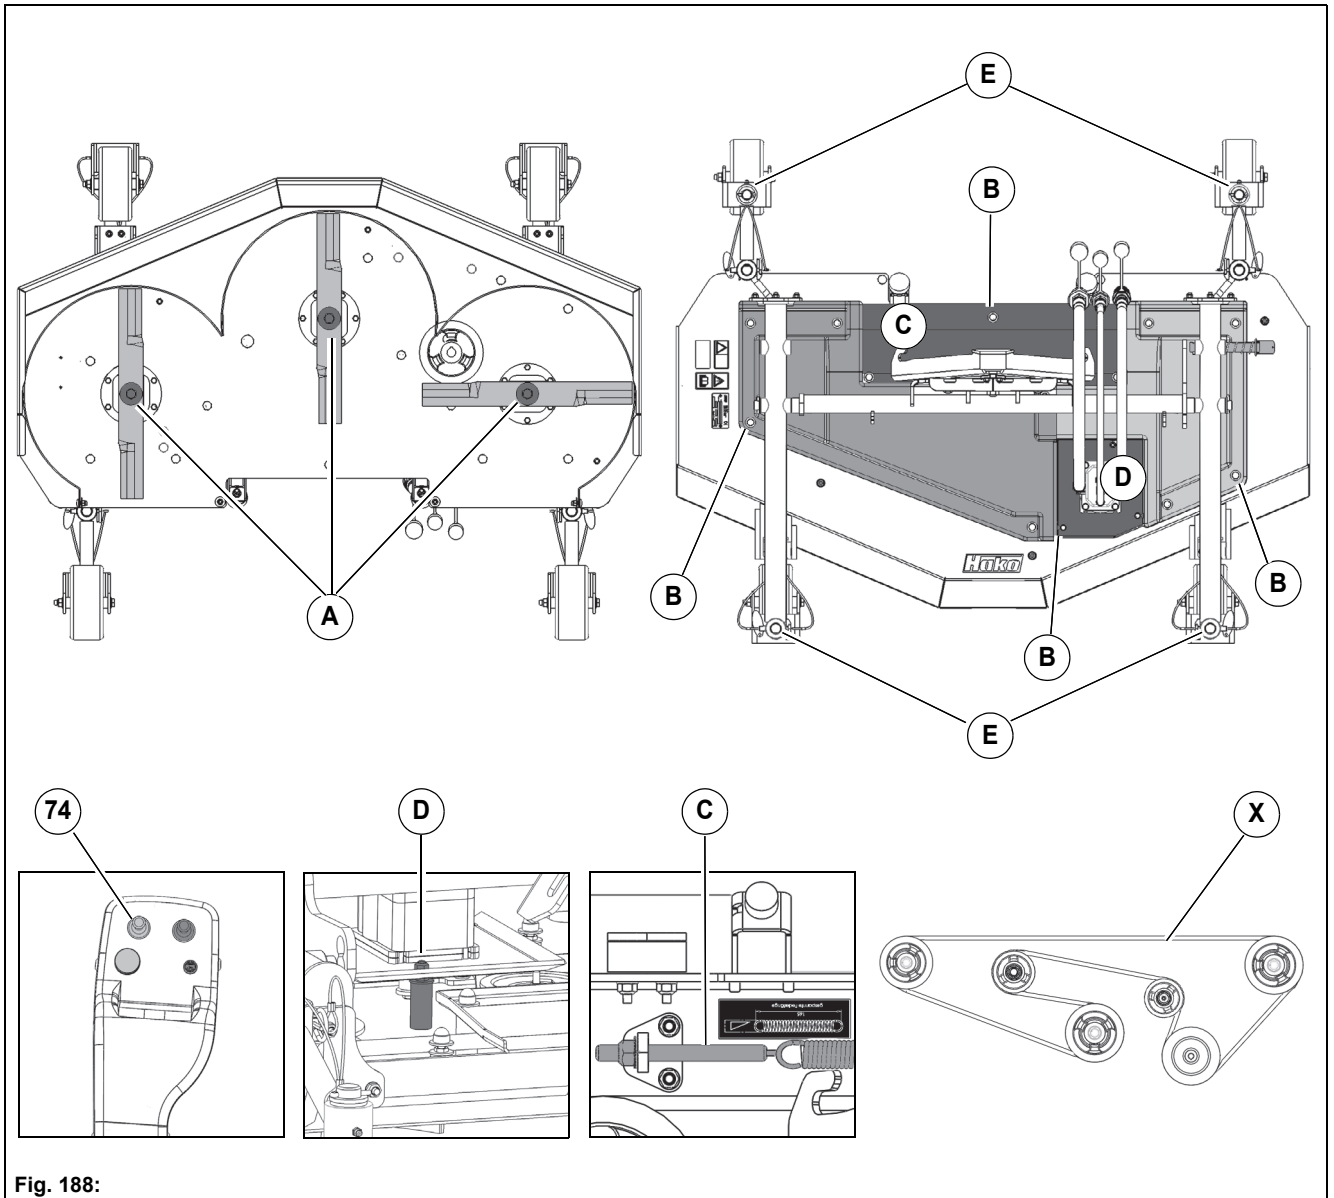

Fig. 188:
5. Pull out the mounting bolt **Fig. 188-A** and lower the mower with the joystick.
2. Loosen the screw **Fig. 188-A** and remove it with the disk and mowing blade.
2. Loosen the screws on the covers **Fig. 188-B** and remove the covers.
3. Relax the tension spring with the screw **Fig. 188-C** and unhook it.
4. Remove the screws of the gearbox holder **Fig. 188-D** and remove the defective V-belt.
5. Insert the new V-belt corresponding to **Fig. 188-X**.
- Bushes of the wheel holders **Fig. 188-E** (x4)